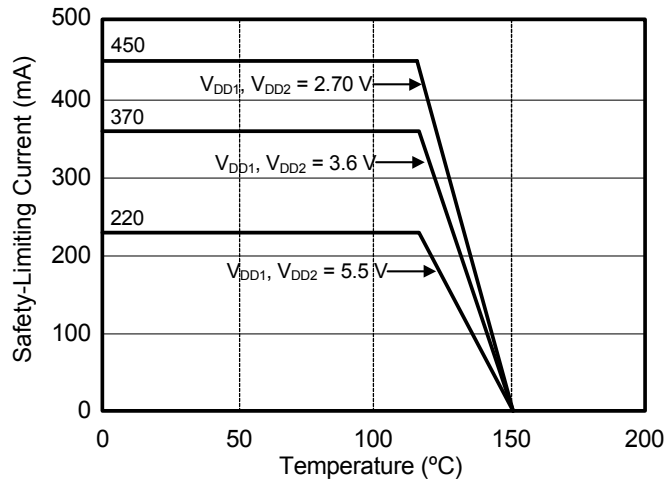

Figure 4. (WB SOIC-16) Thermal Derating Curve, Dependence of Safety Limiting Values with Case Temperature per DIN EN 60747-5-2
1. Maximum value allowed in the event of a failure; also see the thermal derating curve in Figures 4, 5 and 6.